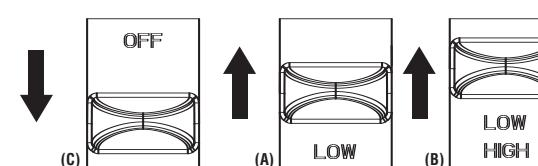

Fig. 14
To select high speed, slide the switch up to the second click (B). To turn the unit off, slide the switch all the way down (C). (Fig. 14)